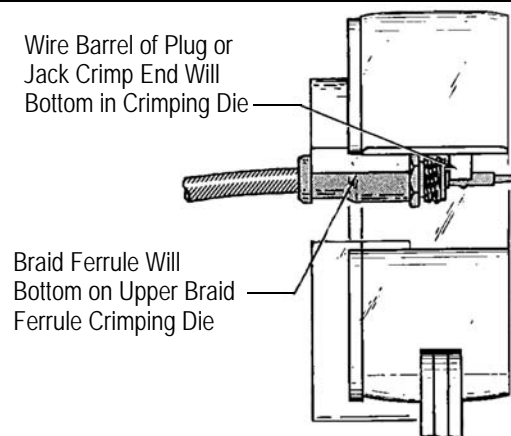

Figure 3
- The crimping tools have double sets of dies, see Figure 3, to crimp the braid ferrule and wire barrel of the jack or plug crimp end. Ferrule and wire barrel are crimped at the same time.
- Place the crimp end in the crimping dies as shown in Figure 3.
4. Make certain that the wire barrel and braid ferrule of the crimp end are resting firmly on the crimping dies. See Figure 3.